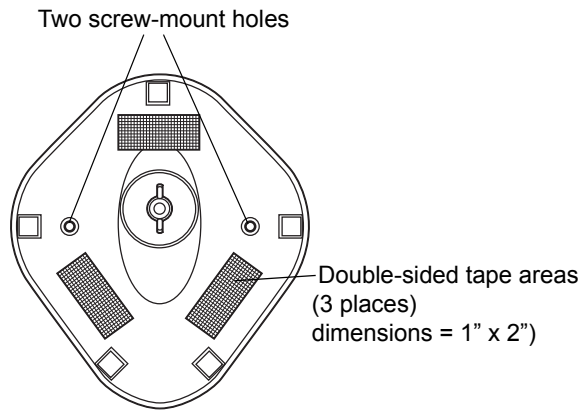

Figure 2-6 *Mounting the Stand*
2. Screw one #10 wood screw into each screw-mount hole until the base of the stand is secure (see Figure 2-6).
2. Peel the paper liner off the exposed sides of each piece of tape and press the stand on a flat surface until it is secure (see Figure 2-6).